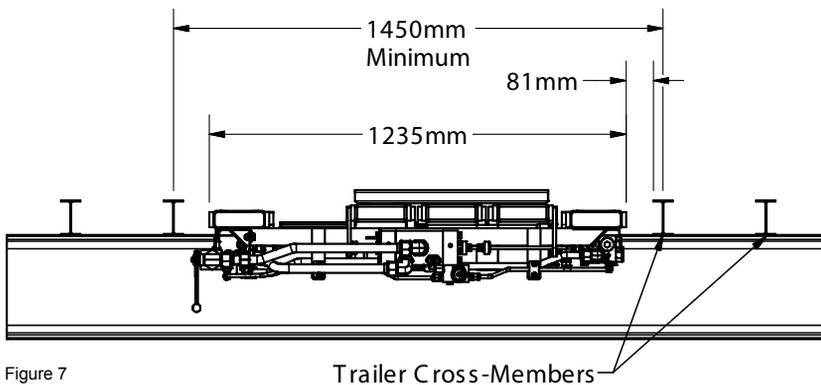

Figure 7
1. Remove cross-members to create an adequate gap for the drive unit (Figure 7). See Chapter 4 for more information about drive unit location.